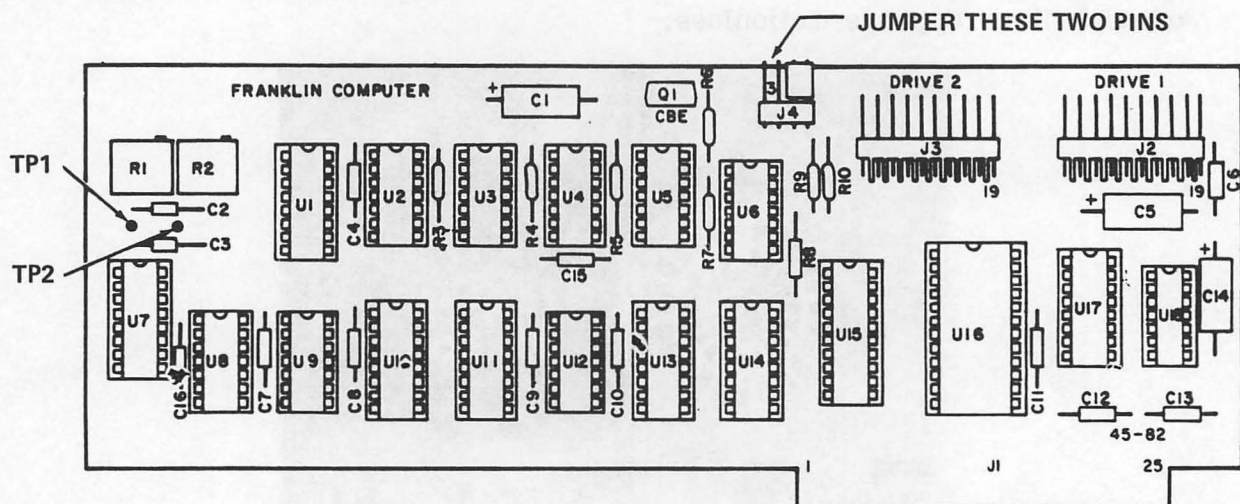

Figure 6-8. ACE 10 Disk Controller.
2. Both 13 and 16 sector selectors should be jumpered. Figure 6-8.
Connect a disk drive to the drive 1 position of the disk controller. Jumper the two left pins of J4 together (See Figure 6-8). Do not disturb the two right pins. They must also be jumpered together.